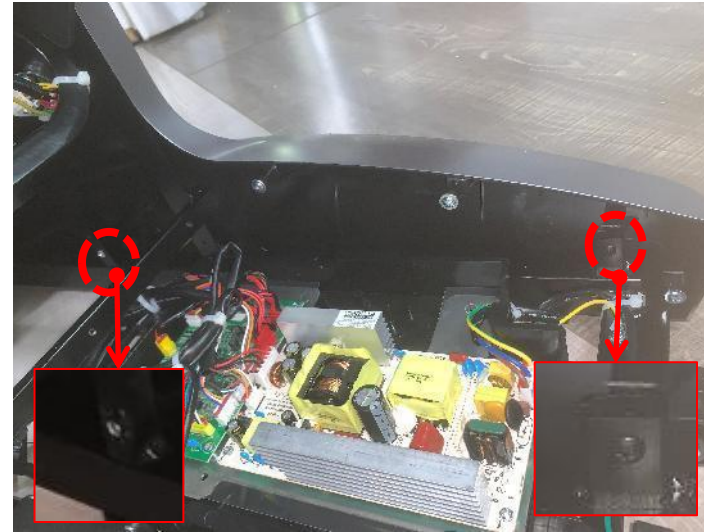

Figure 2
2. Remove two screws at the rear end of the side cover (Figure 2)